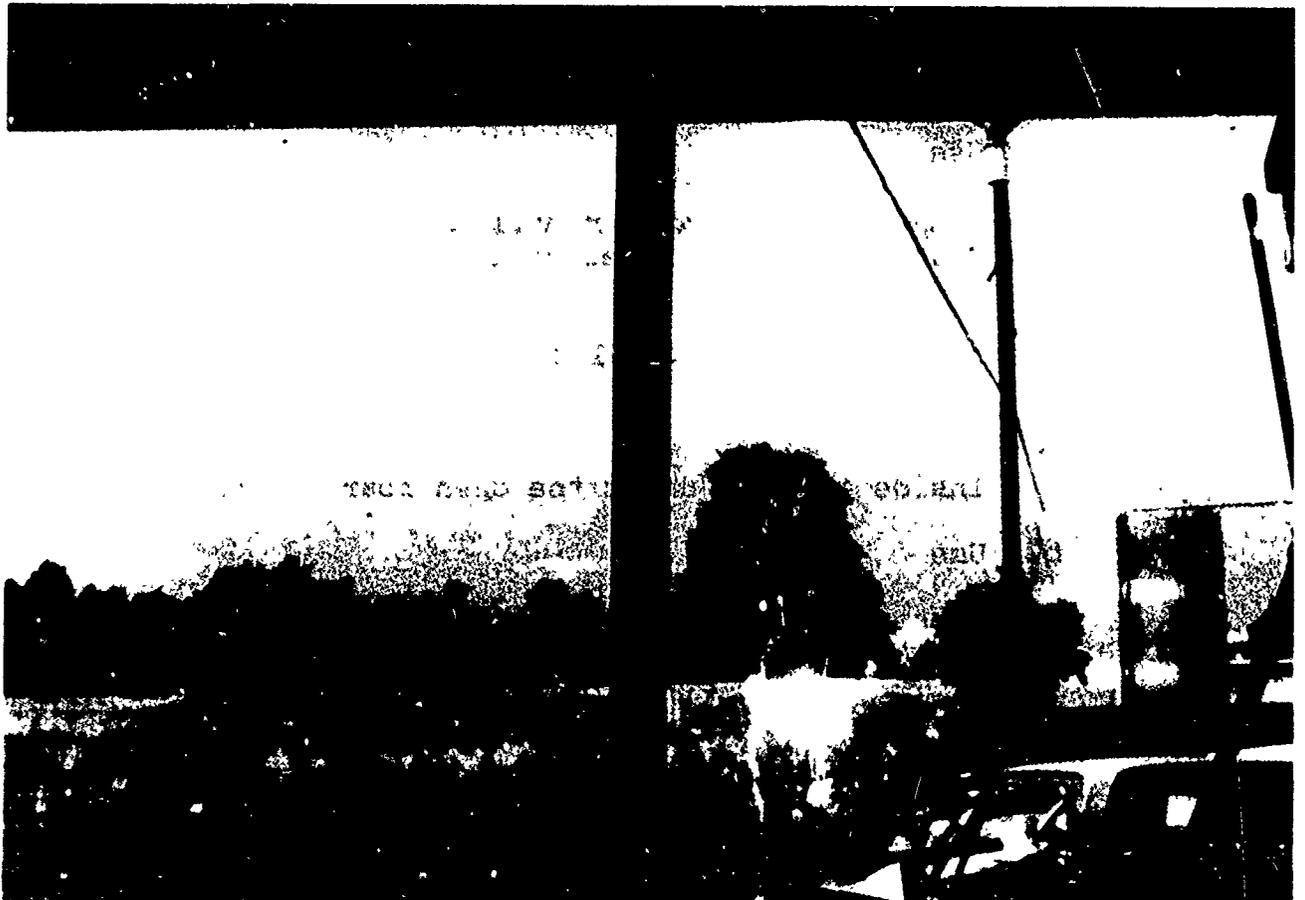

Figure 32. Vehicle Status Indicator Display.
12. Vehicle Status Indicator Display (Figure 32)
Sensors for agent pressure, water tank level and foam tank level are located in this position. The sensors send electrical signals to the signal conditioning circuits for display on the vehicle status indicator display figure 32.